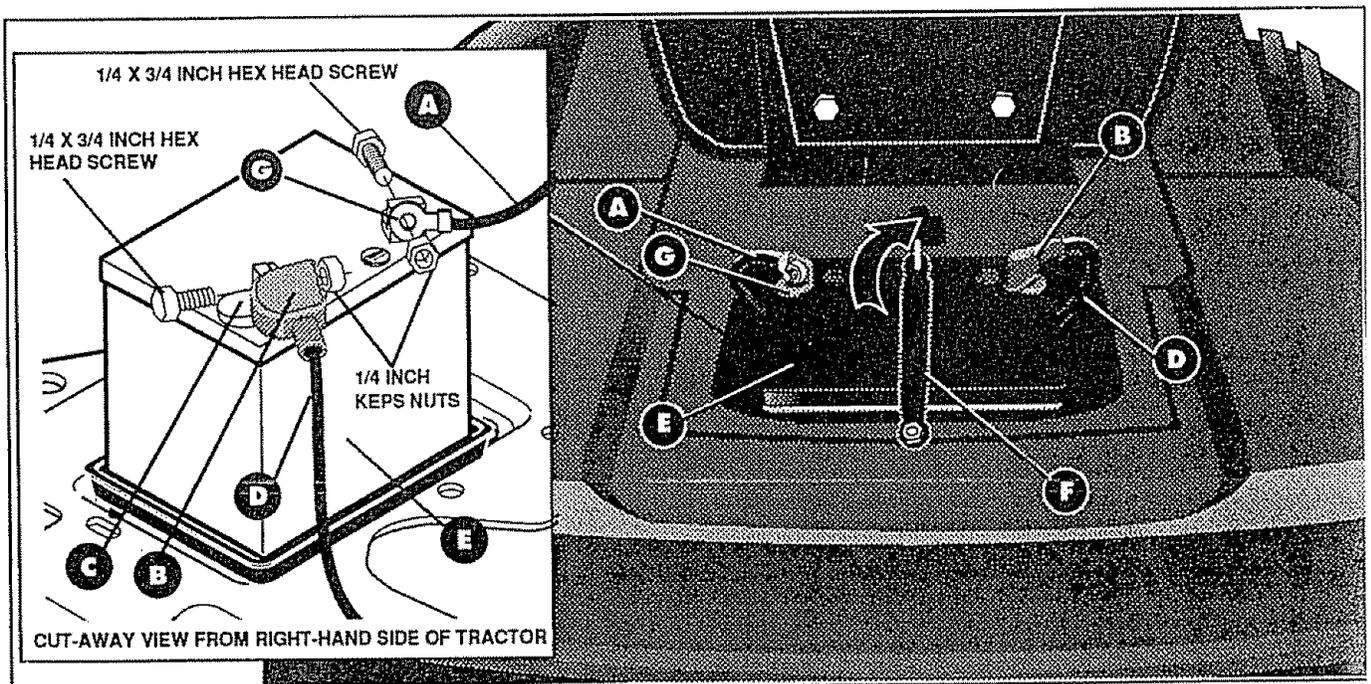

FIG. 3
- Attach positive (+) red battery cable (D) to positive (+) terminal (C) on battery with a 1/4 X 3/4 inch head screw and a 1/4 inch keps nut. Tighten nut securely
- Place battery boot (B) over positive (+) battery terminal (see Fig. 3 inset).
- Attach negative (-) black battery cable (A) to negative (-) terminal (G) on battery with a 1/4 X 3/4 inch hex head screw and a 1/4 inch keps nut. Tighten nut securely.